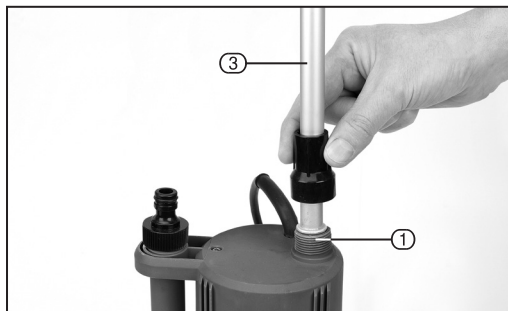

FIG. 1
6.1 EXTENSION TUBES - FIGS.1 - 2